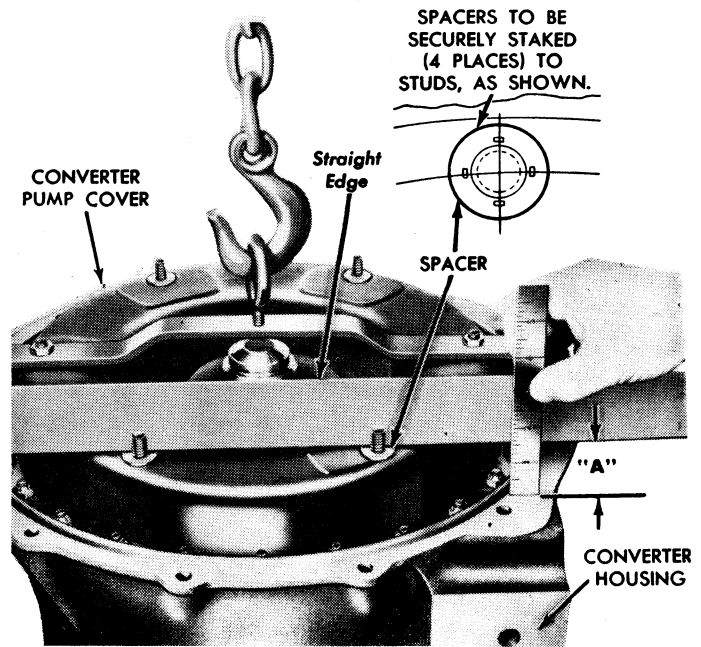

Fig. 16 Converter stack control spacer measurement
17. If any of the parts listed below are replaced in the course of the work, the dimension indicated by "A" in Fig. 16 must be checked. The required dimension is 1.572-1.592". Parts replacement which may affect dimension "A" are: Converter pump cover assembly, lockup clutch reaction plate, converter pump, converter pump hub, converter ground sleeve assembly and converter housing. Dimension "A" may be checked by fastening a sling as shown and applying a pull of 100 lbs. or more to remove all end play. If the dimension is not within specified limits, install or remove converter stack control spacers as needed. Spacers are furnished in five thicknesses ranging from .027" to .101".